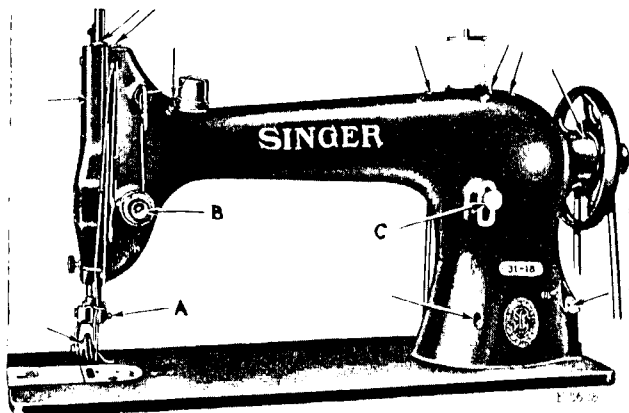

FIG. 2. OILING POINTS AT THE FRONT OF THE MACHINE ALSO ADJUSTMENTS ON THE MACHINE
Oil should be applied to all oil holes marked "Oil" and to all other oiling places indicated by arrows in Figs. 2, 3 and 4.
Turn the balance wheel over toward you until the needle bar moves up to its highest point; loosen the screw (A, Fig. 2, page 4) in the needle clamp and put the needle up into the clamp as far as it will go, with the long groove of the needle toward the left and the eye of the needle directly in line with the arm of the machine, then tighten the screw.
The tension on the needle thread should be regulated only when the roller presser is down. Having lowered the roller presser, turn the thumb nut (B, Fig. 2) at the front of the tension discs over to the right to increase the tension. To decrease the tension, turn this thumb nut over to the left.
The length of stitch is regulated by the thumb screw (C, Fig. 2, page 4) in the slot on the front of the upright part of the arm. To lengthen the stitch, loosen this thumb screw and move it downwardly. To shorten the stitch, loosen this thumb screw and move it upwardly. When the desired length of stitch has been obtained, tighten the thumb screw (C).